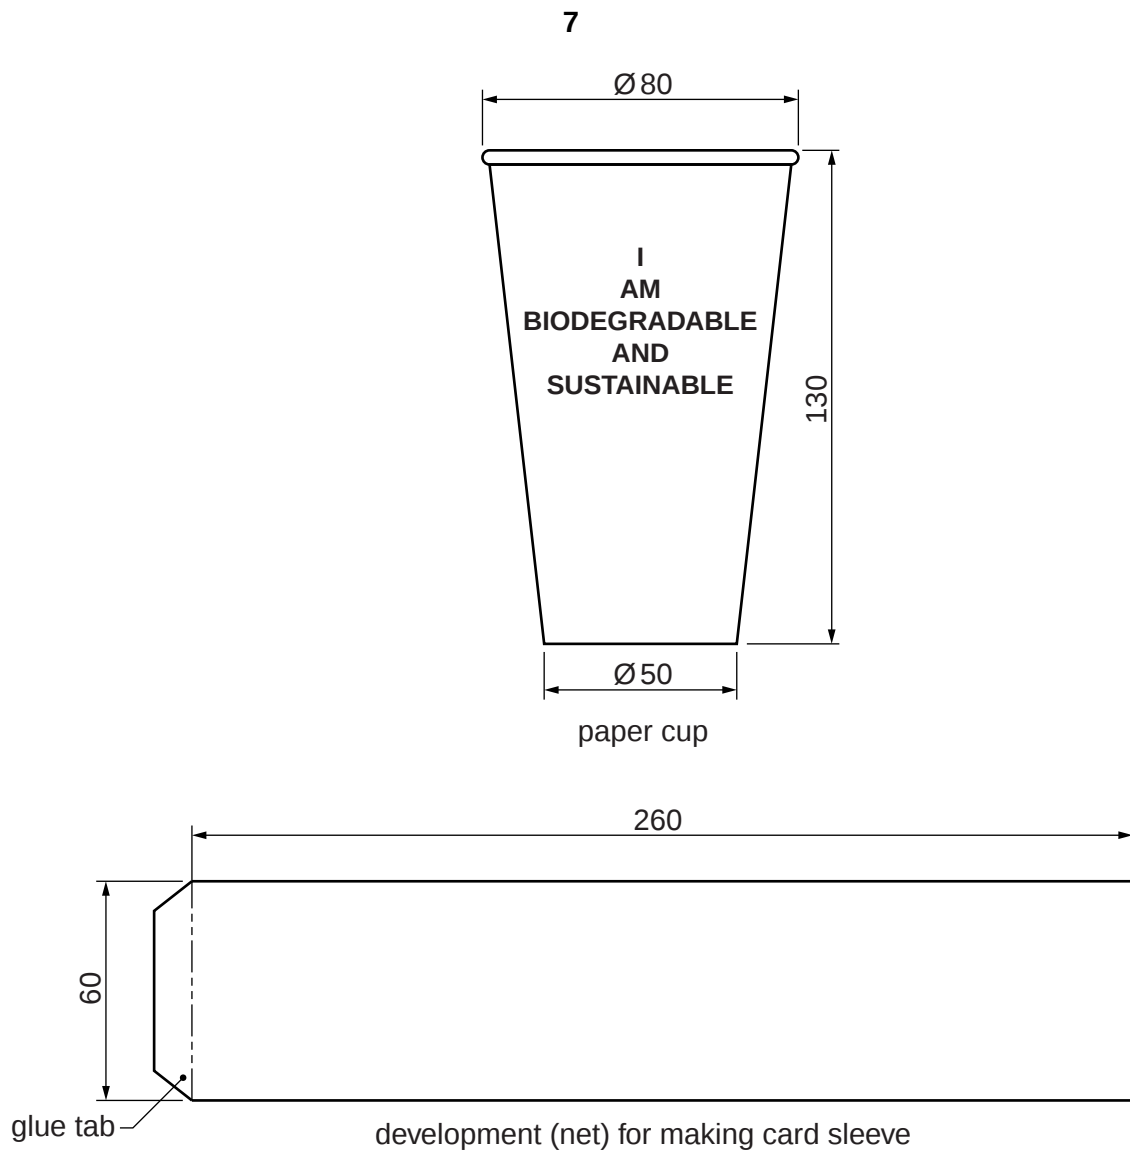

Fig. 4
- 4** Fig. 4 shows a design for a paper cup and the development (net) for making a card sleeve. The sleeve slides onto the cup and prevents people burning their fingers when they hold the cup filled with a hot drink.